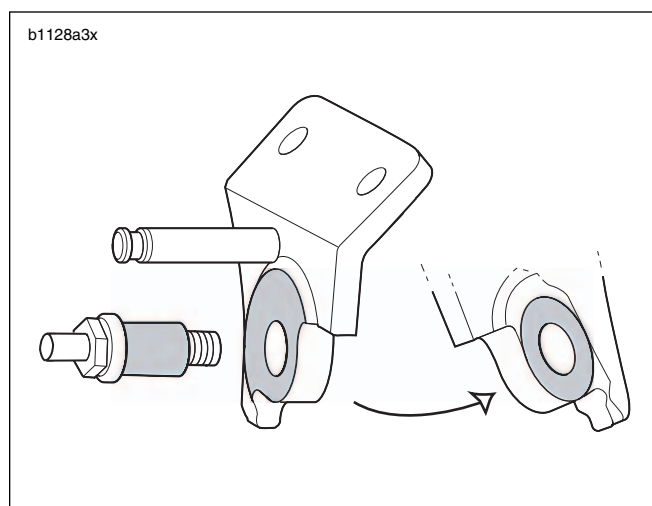

Figure 3. Lubricating Points (Shaded Areas)
1. Install **new** longer sidestand pivot bolt (4).
- a. See Figure 3. Lubricate sidestand pivot bolt and mating portions on sidestand bracket with WHEEL BEARING GREASE (Part No. 99855-89) on shaded areas only.